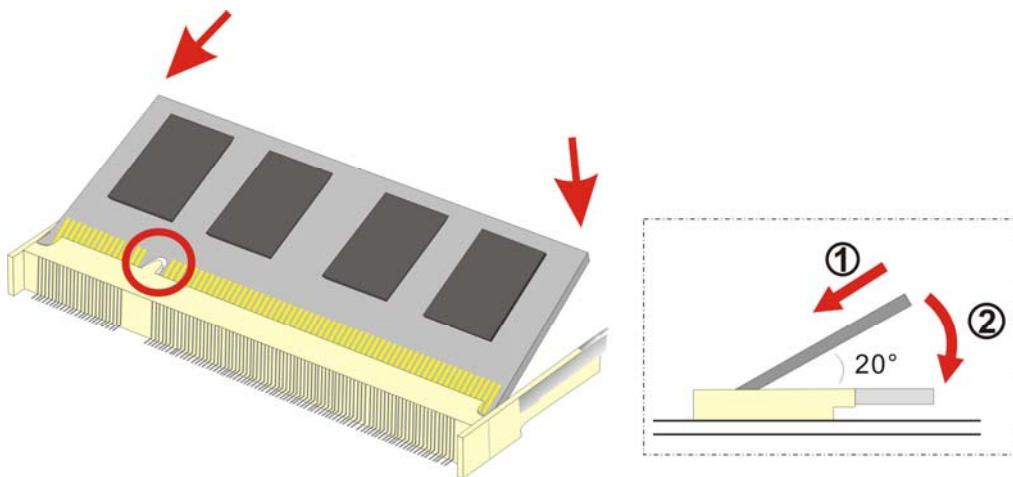

Figure 5-1: SODIMM Installation
To install a SODIMM into a SODIMM socket, please follow the steps below and refer Figure 5-1.
Step 3: **Insert the SODIMM.** Push the SODIMM chip into the socket at an angle. (See **Figure 5-1**)
Step 4: **Open the SODIMM socket arms.** Gently pull the arms of the SODIMM socket out and push the rear of the SODIMM down. (See **Figure 5-1**)